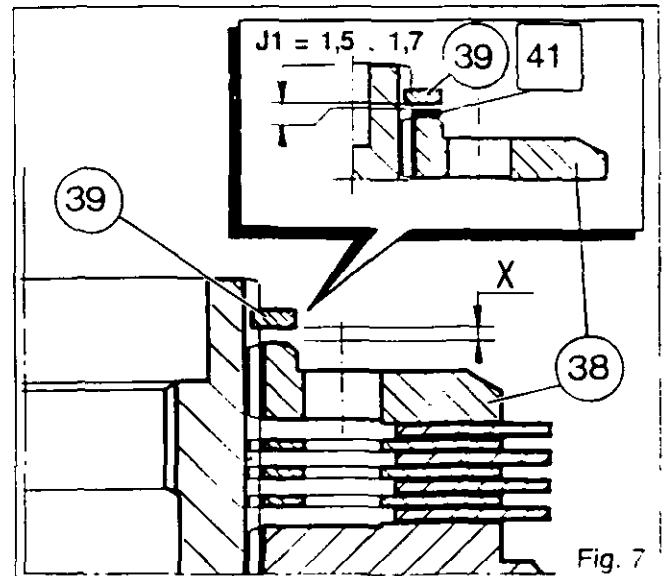

Fig. 7
**41. Shimming J1 (Fig. 7)**
**J1 = 1.5 to 1.7 mm** (Fig. 7).
**42. Remove the circlip (39).**
45. Lubricate and fit the O-rings (32) and (29) on the cover (30) and refit them.
**46. Fit the circlip (31).**
47. Fit the clutch assembly (16) to the transfer gear (15).
**Note: The bush (43) is press-fitted into the transfer gear (15) and then rebores.**